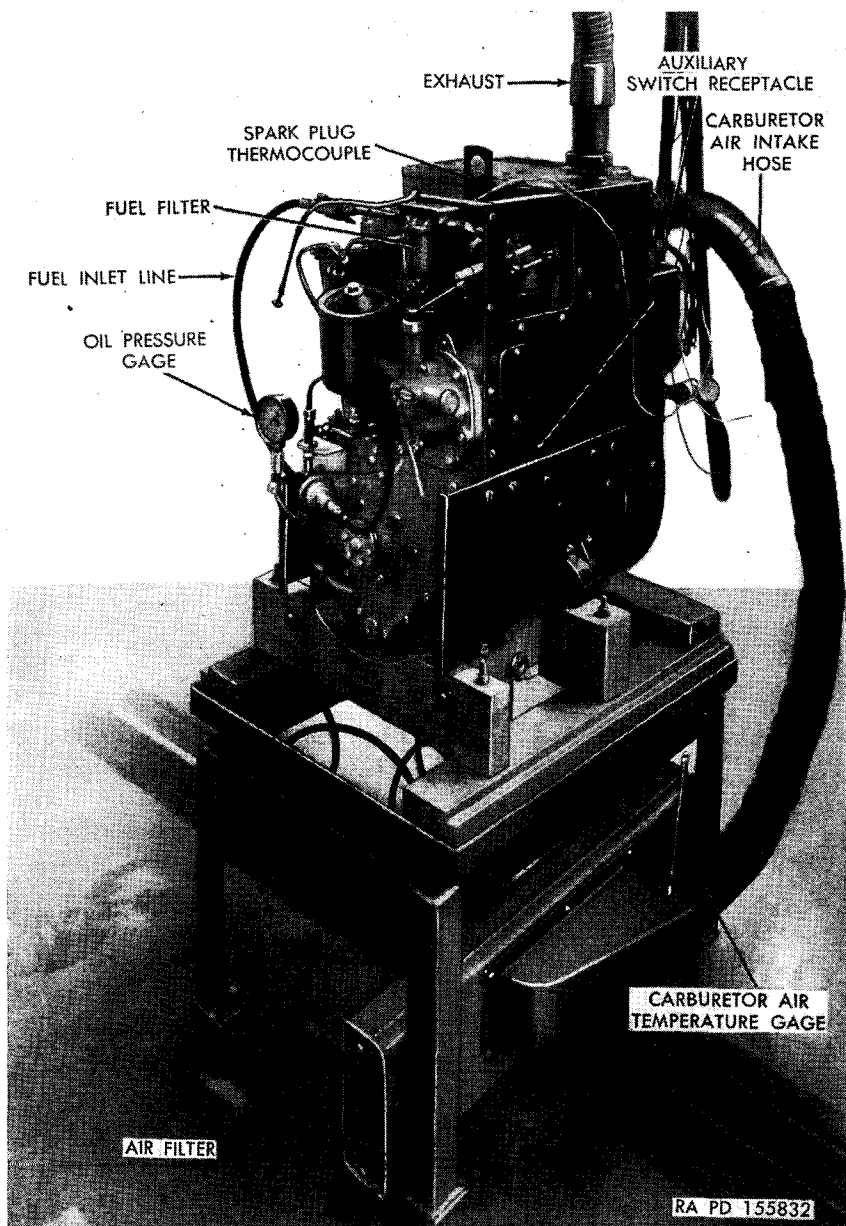

Figure 112. Run-in test set-up—left-front view.
a. GENERAL. Install generator and engine unit on a suitable test stand in an adequately ventilated area (figs. 112 and 113).
- (b) Connect fuel inlet line to fuel filter (figs. 112 and 113).
- (c) Connect air intake to carburetor and to air filter (figs. 112 and 113).
- (d) Connect exhaust port to exhaust stack (figs. 112 and 113).
- (c) Remove spark plug and gasket and connect spark-plug thermocouple. Install spark plug gasket and spark plug (figs. 112 and 113).
- (e) Disconnect oil pressure switch from three-eighth tube tee at front of engine oil pressure gage to tee (fig. 112).